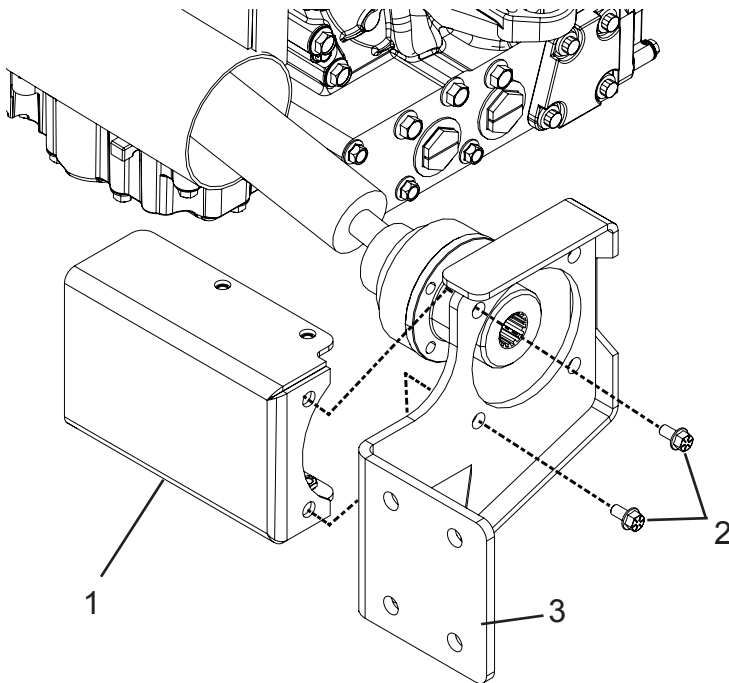

Figure 5
8. Using appropriate wrenches, install the new half of the pump mount cover (P/N 1552174) (Figure 5, Item 1) using the retained hardware (Figure 5, Item 2) to the pump mount support plate (Figure 5, Item 3).